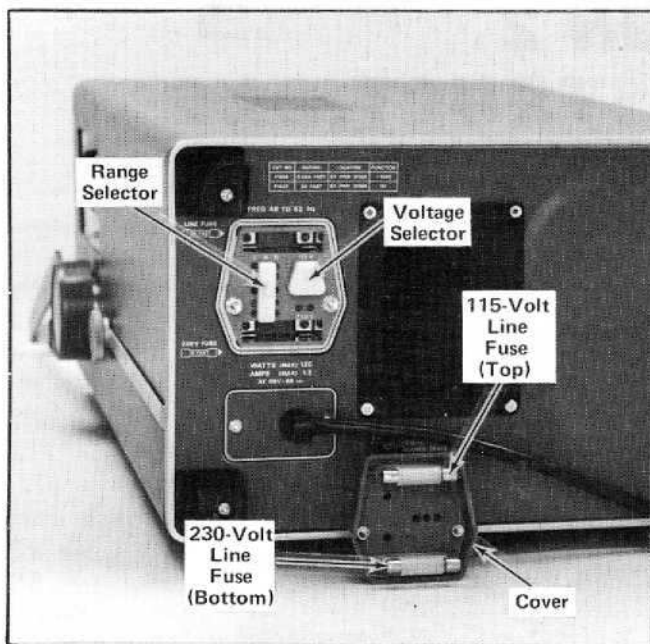

Fig. 2-2. Line Voltage Selector assembly on the rear panel (shown with cover removed).
3. To convert from 115-volts nominal to 230-volts nominal line voltage or vice versa, pull out the Voltage Selector switch bar (see Fig. 2-2); turn it 180° and plug it back into the remaining holes. Change the line-cord power plug to match the power-source receptacle or use a 115- to 230-volt adapter.
4. To change regulating ranges, pull out the Range Selector switch bar (see Fig. 2-2); slide it to the desired position and plug it back in. Select a range which is centered about the average line voltage to which the instrument is to be connected (see Table 2-1).